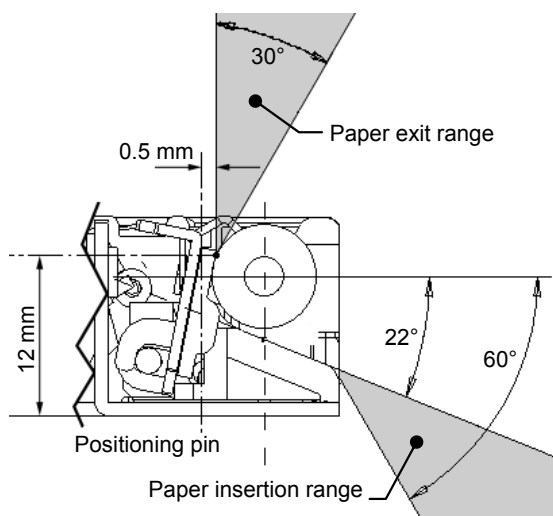

Figure 3.1.2
- 1) Arrange the cutter blade position so that its edge is positioned within the range of paper ejection shown in Figure 3.1.2.